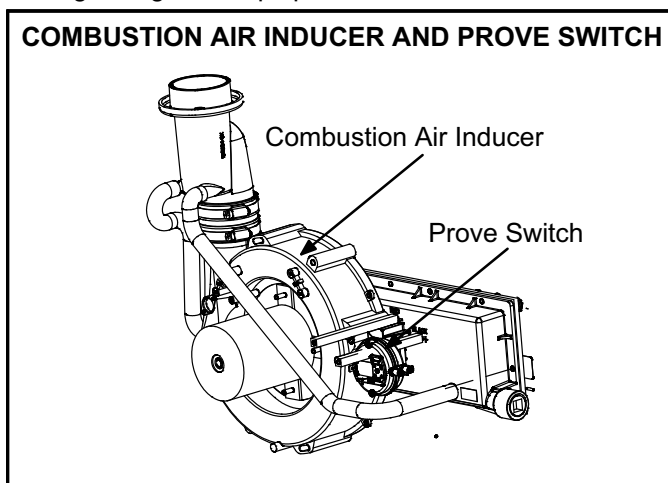

FIGURE 8
7. Combustion Air Inducer (B6) & Cold End Header Box Figure 8
8. Combustion Air Prove Switch Figure 8 and 9